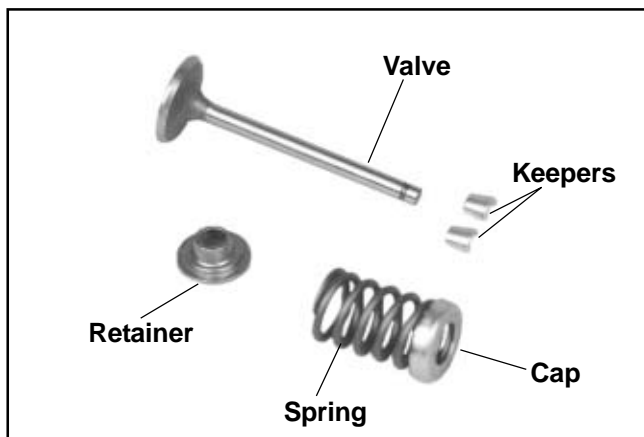

Figure 9-53. Valve Train Components.
3. Once the valve spring is compressed, remove the following items. See Figures 9-53 and 9-54.